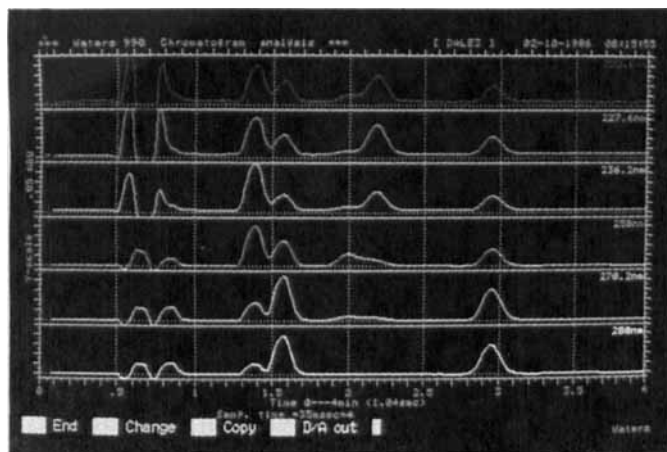

FIGURE 72. Seven-wavelength plot (each in a different color) on the Waters-Millipore 990 DAD. (With permission.)
2. *Dual-wavelength plot* or *multiwavelength plots* show two or more chromatograms (absorbance vs. time) on the same video screen (or printout). The chromatograms may be overlapping (see Figure 70, top) or one above the other (Figure 72).